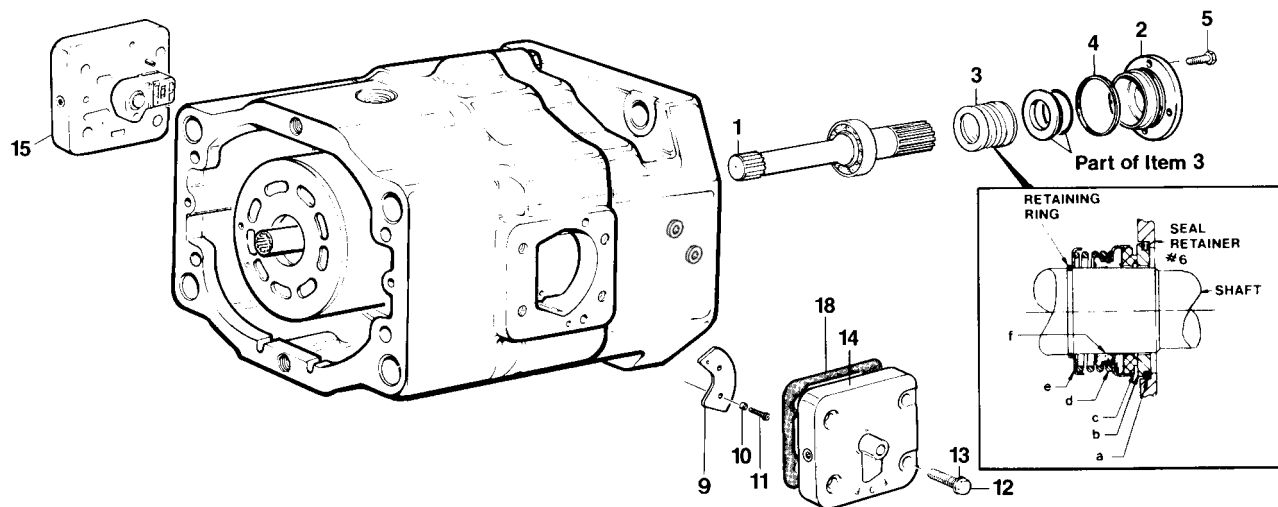

FIGURE 7
See figure 7.
PARTS LIST FOR FIGURE 7
See figure 7. Place the two spacers (10) on the screws (11) and install through the balance plate (9).